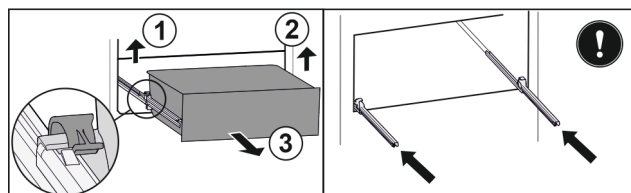

Fig. 118
- Lift left clamp and simultaneously pull drawer forwards on the left. Fig. 118 (1)
- Lift right clamp and simultaneously pull drawer forwards on the right. Fig. 118 (2)
- Remove drawer to the front. Fig. 118 (3)